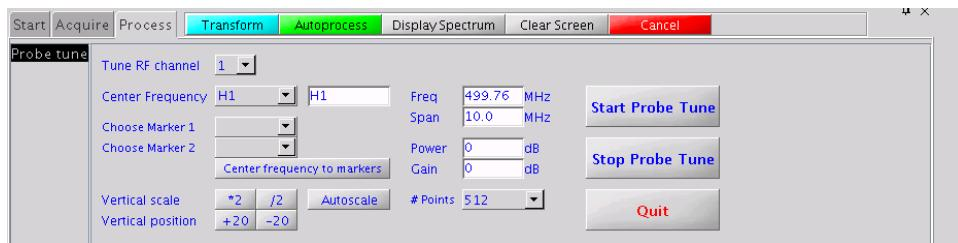

Figure 7 Manual Tuning Panel
4. Select **Start Probe Tune** on the Mtune panel, see Figure 7.